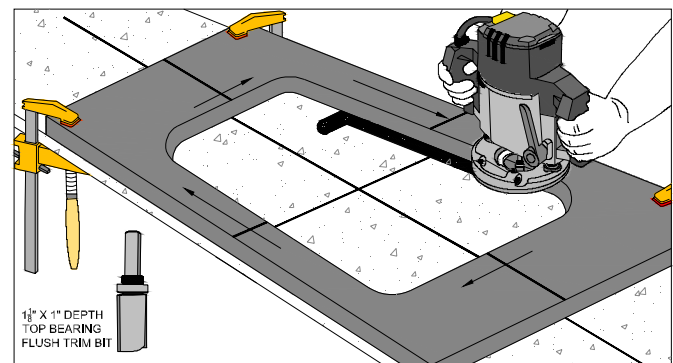

Figure 5B
- Index a 3¼ HP or 2½ HP plunge router with a 1" x 1½" top bearing flush trim router bit. (FIG. 5B)
- Route along templates in the direction indicated. (FIG. 5B)